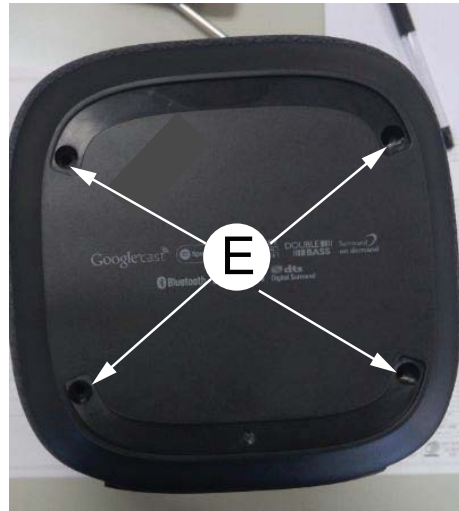

Figure 7
- 1) First remove the rubber foot at the bottom cover ,then Loosen 4 screws "E" as shown in figure 7.